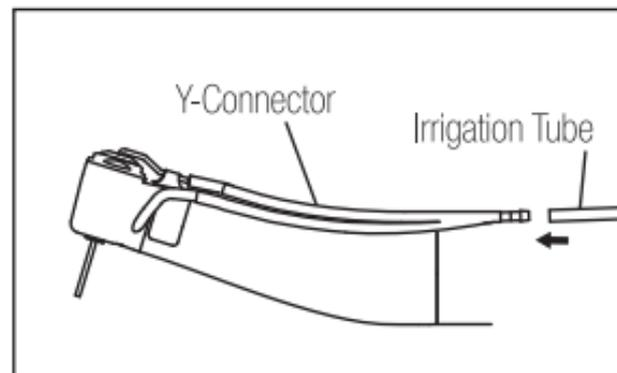

Fig. 8
- 2) Connect the Irrigation Tube to the Y-Connector firmly. (Fig. 8)